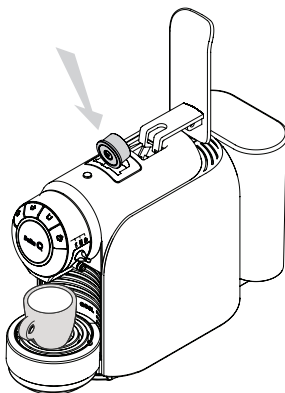

Fig. 9: Place capsule.
Completely lower the lever (see **Fig. 9**).
- After extracting the amount of coffee selected, the equipment stops automatically. You are recommended to lift the lever again at the end of the extraction process to release the capsule into the used capsule tank. Lower the lever into its resting position (see **Fig. 9**).
- Raise the lever to its full extent and insert a Delta Q coffee capsule in the capsule holder hole, in accordance with the housing silhouette. Completely lower the lever (see **Fig. 9**).
- After extracting the amount of tea selected, the equipment stops automatically. You are recommended to lift the lever again at the end of the extraction process to release the capsule into the used capsule tank. Lower the lever into its resting position (see **Fig. 9**).